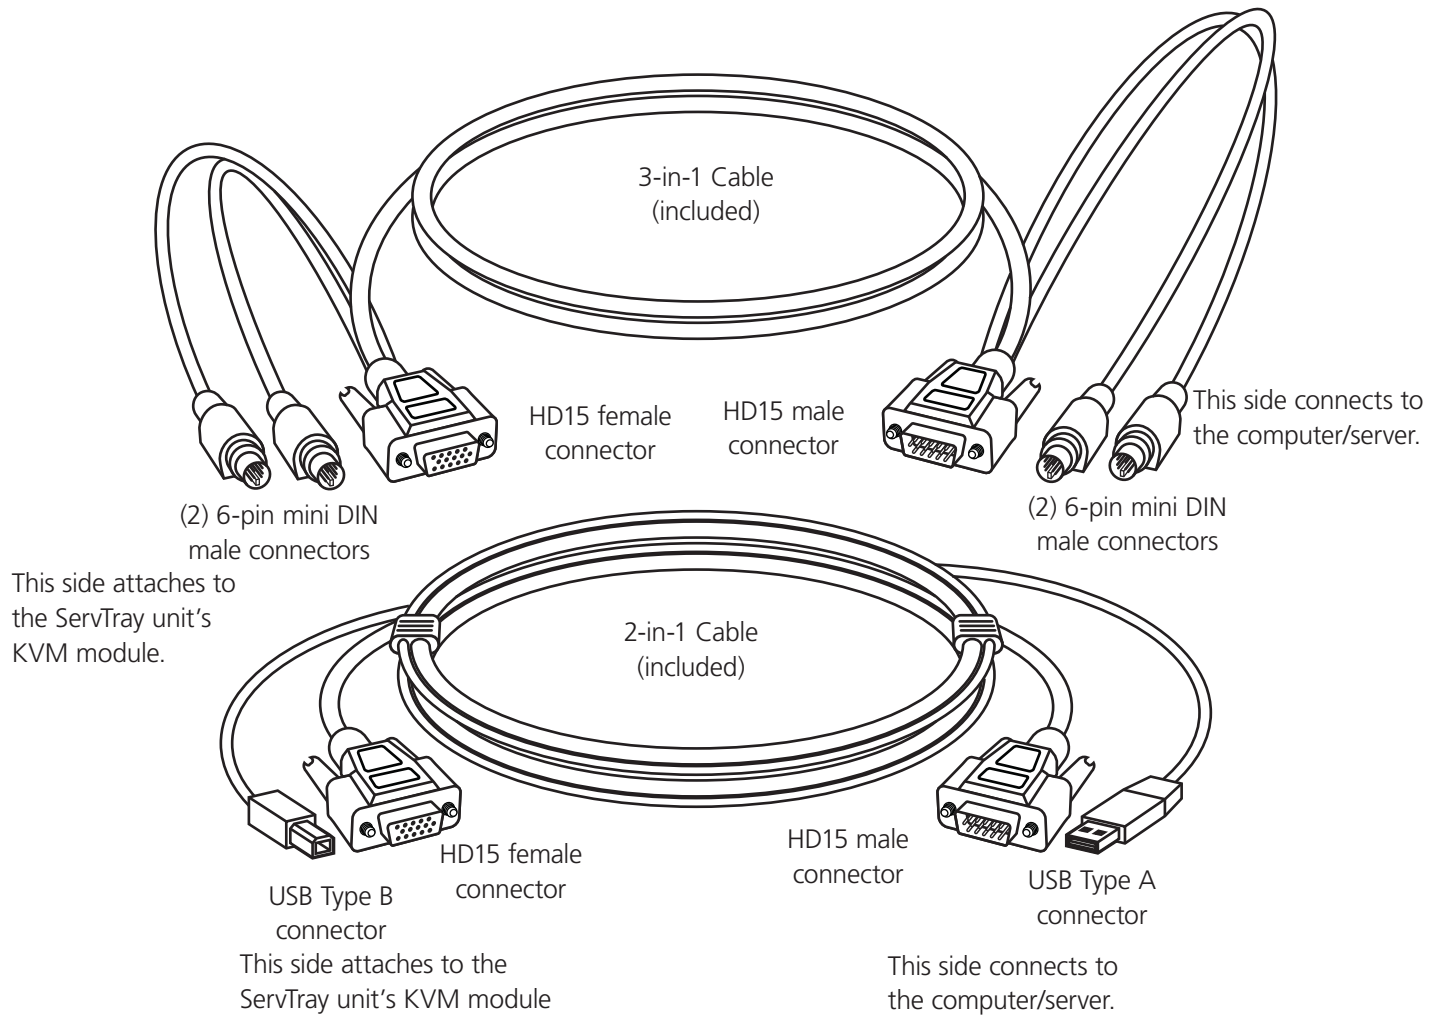

Figure 3-12. Cable for connecting the KVM module to a computer.
11. Once the ServTray is installed in the 4-post rack or cabinet, you can connect it to a computer. The KVM module's connectors attach to the KVM connectors on a PS/2 CPU via the 3-in-1 (PS/2, PS/2, VGA) Cable (included) or they connect to the HD15 and keyboard/mouse connectors on a USB CPU via the 2-in-1 (USB, VGA) Cable (included). Both cables are shown in Figure 3-12.